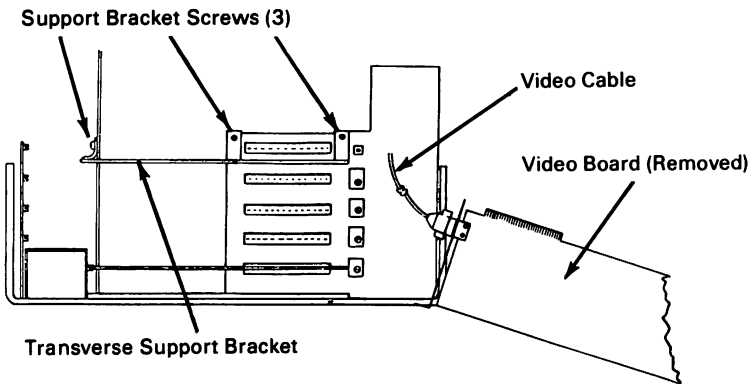

Figure 4-13 Rear View of PC Unit. Removal of Video Board & Removal of Transverse Support Bracket
9. Locate the transverse support bracket which is installed directly below the top MPB connector. Refer to figure 4-13 and remove the bracket and lay the bracket and the three screws aside.